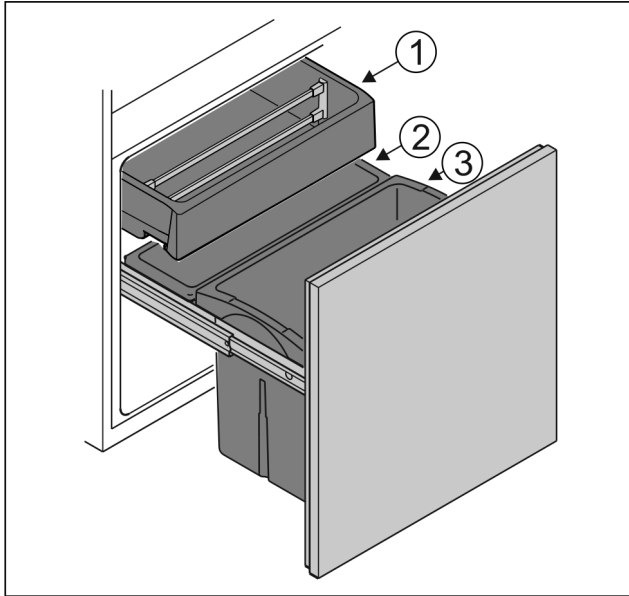

Fig. 68
- ▶ Container Fig. 68 (1): Store unpackaged vegetables and tropical fruits.
- ▶ Container Fig. 68 (2): Store small unpackaged fruits and vegetables.
- ▶ Container Fig. 68 (3): Store individual bottles.